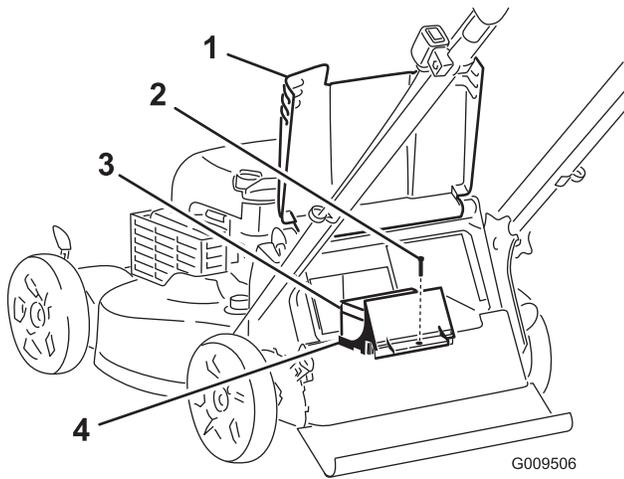
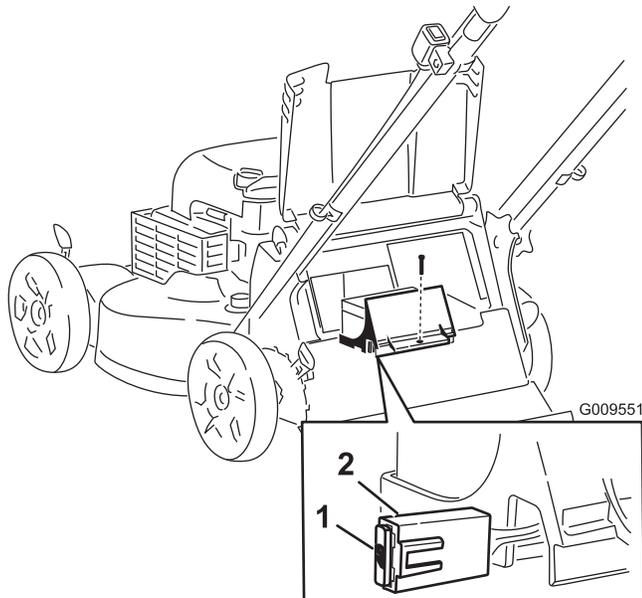

Figure 5
Figure 6
1. Raise the rear deflector and locate the battery compartment (Figure 5).
- 2. Remove the screw that secures the battery compartment, pull out the battery, and locate the fuse (Figure 5 and Figure 6).
- 3. Insert the fuse into the fuse holder (Figure 6).